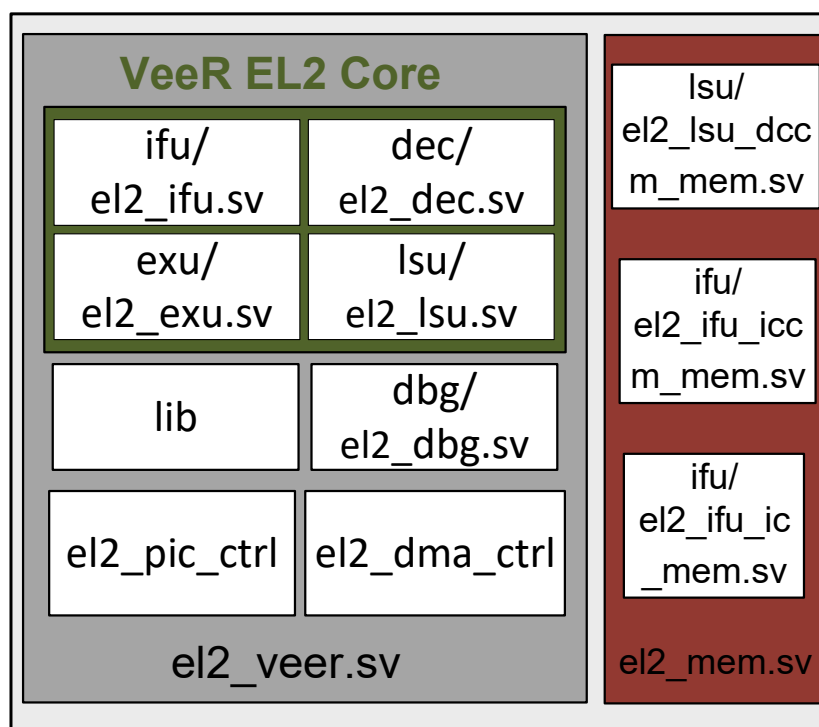

Figure 14. VeeR EL2 Core Complex
Figure 14 shows the file structure of the **VeeR EL2 Core Complex** (Figure 4). The core is organized into three main blocks: a VeeR wrapper (highlighted in grey) that includes the VeeR EL2 Core (highlighted in green) and some other elements (such as the Interrupt Controller or the Debug Unit), and the Data/Instruction memories and Instruction Cache (highlighted in red).
The top file for the VeeR EL2 Core Complex is in the file: *veer_el2_wrapper.sv*; the top module is called **veer_el2_wrapper**, and it instantiates two modules that correspond to the two blocks highlighted in grey and red in Figure 14:
The VeeR EL2 Core (highlighted in green in Figure 14) consists of the following four units:
- **veer_wrapper_dmi** (available inside *VeeR_EL2CoreComplex/veer_el2_wrapper.v*): instantiation of VeeR EL2 Core Complex, described in the previous section (Figure 14).